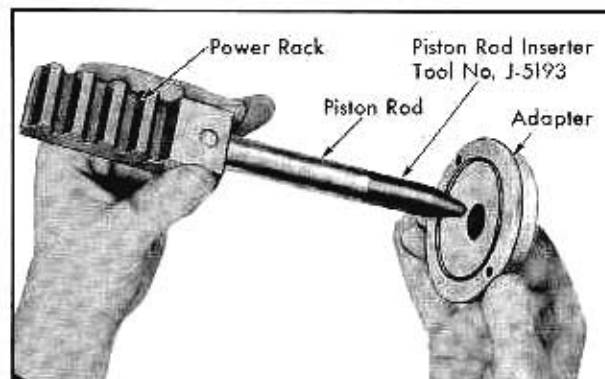

Fig. 7-34 Installing Adapter on Piston Rod
3. Install Special Thimble, Tool No. J-5193, over threaded end of piston rod and slide adapter over Thimble onto piston rod. Fig. 7-34.